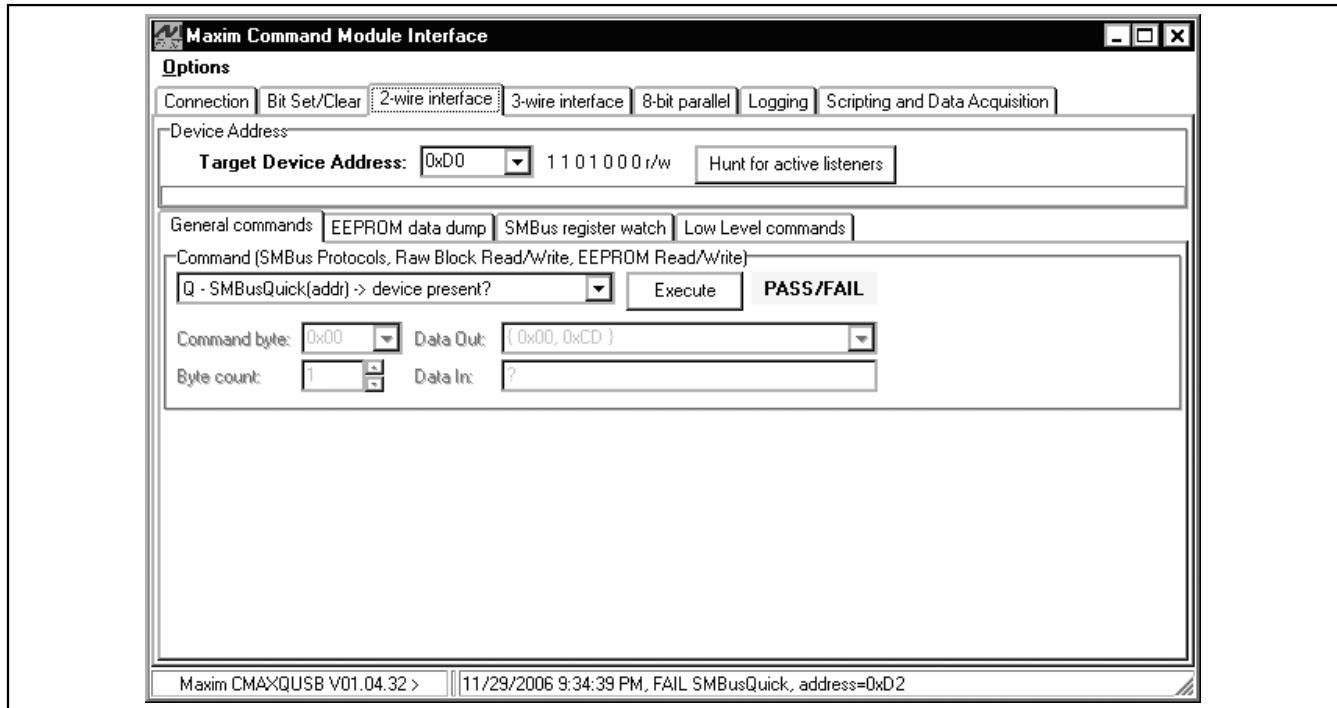

Figure 5. MAX9450 EV Kit Software—
**Command Module Interface** window (see Figure 5), click the **Diagnose** button. Enter the device address (0xD0–0xDE) under **Target Device Address**, or click the **Hunt for active listeners** button to automatically find the I2C address. Under the **General Commands** tab, select **1 - SMBusWriteByte(addr,cmd,data8)**. Under **Command byte**, enter the register address, and under **Data Out**, enter the data byte to write to the register. Note that the byte can be entered in hexadecimal prefixed with “0x” or in binary with no prefix.